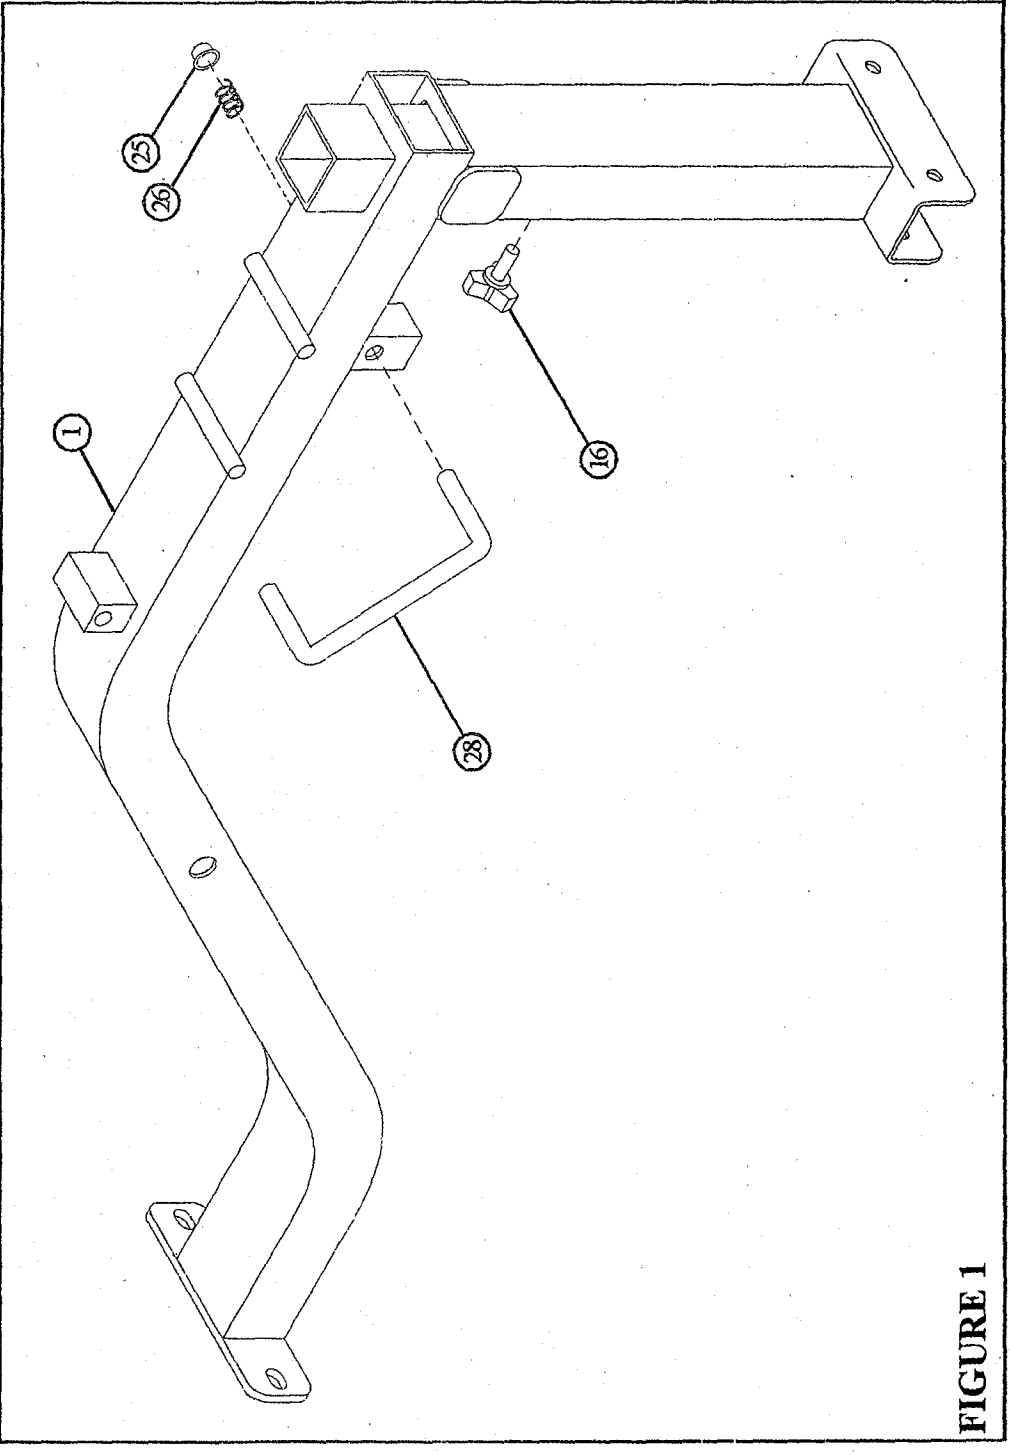

FIGURE 1
- Assemble the 1/2" DIA. U-PIN (29) to the BENCHFRAME (1) using one 1/2 X 1" SPRING (26), and one 1/2" PAL NUT (25) as shown in FIGURE 1.
- Thread one THUMBSCREW (16) into the BENCHFRAME (1) as shown in FIGURE 1. The THUMBSCREW (16) will be used to tighten down attachments.